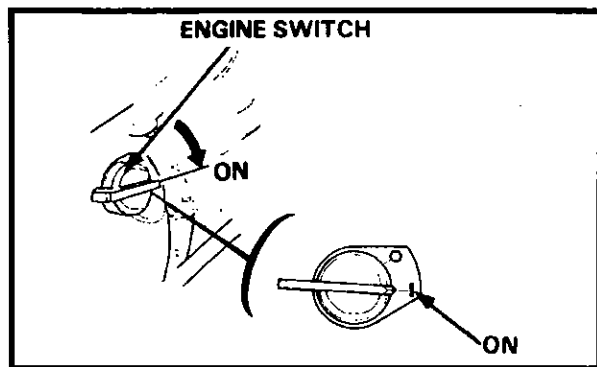

Figure 5-8 Engine ON/OFF Switch
4. Start the engine by turning the engine switch to the ON position = I. Refer Figure 5-8.